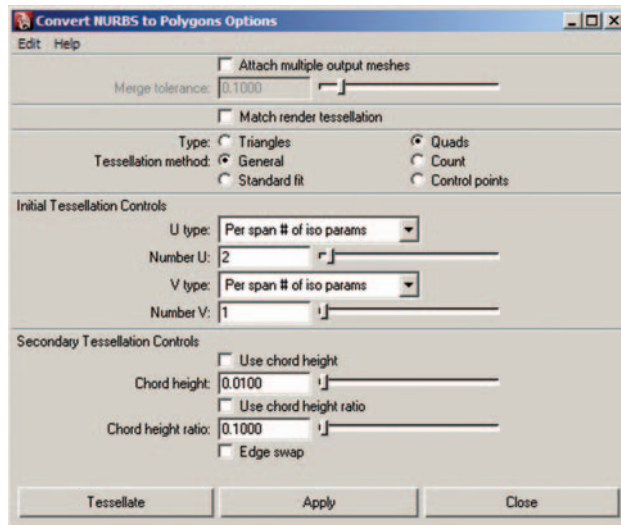

FIGURE 2-38 NURBS to polygons options.
15. Now to convert the surface to polygons. Click on **Modify>Convert>NURBS to Polygons>** . Set the options according to Figure 2-38 and press **Tessellate**. If you have multiple patches, you can check **Attach multiple output meshes**. Our object is only one surface so it can be left unchecked. Change the **Type** to **Quads** and the **Tessellation method** to **General**. This will allow us to better control the resulting polygonal mesh. Under **Initial Tessellation Controls** set both the **U** and **V** type